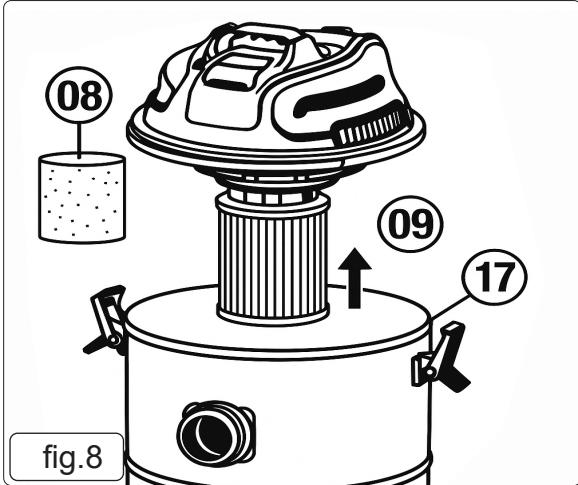

fig.8
- 6.2. Fig.8 is to determine the correct filter specification that meets the operational requirements of the task.
- 8.2. Remove the top section and with the raised rim uppermost fit the cartridge filter tube down over the filter basket and push fully home (fig.8).
- 9.2. Remove the cartridge filter and fit a foam filter over the filter basket. Replace the top section onto the container (fig.8).